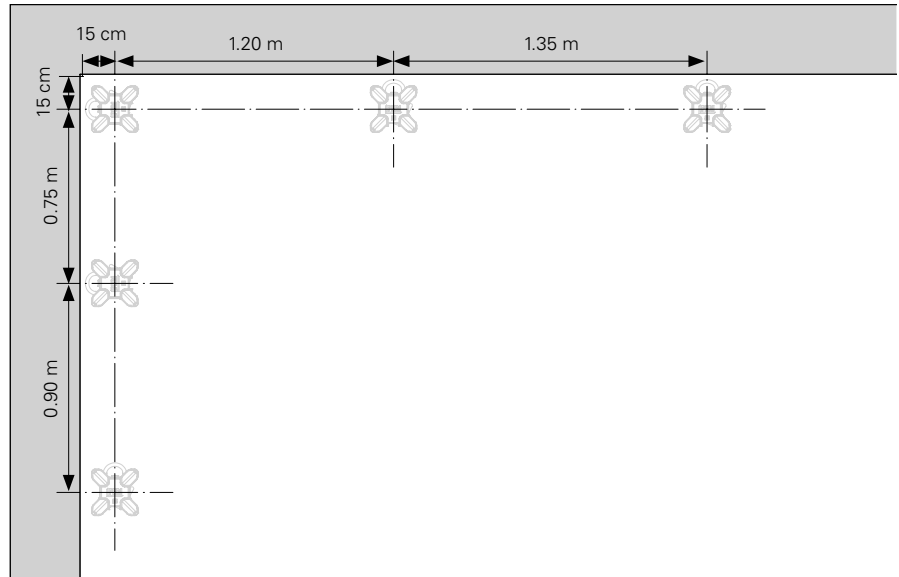

Fig. D2.12
2. Position the slab prop with DFH prophead (32) below the long panel side, see the Slab Prop Plan. (Fig. D2.12)